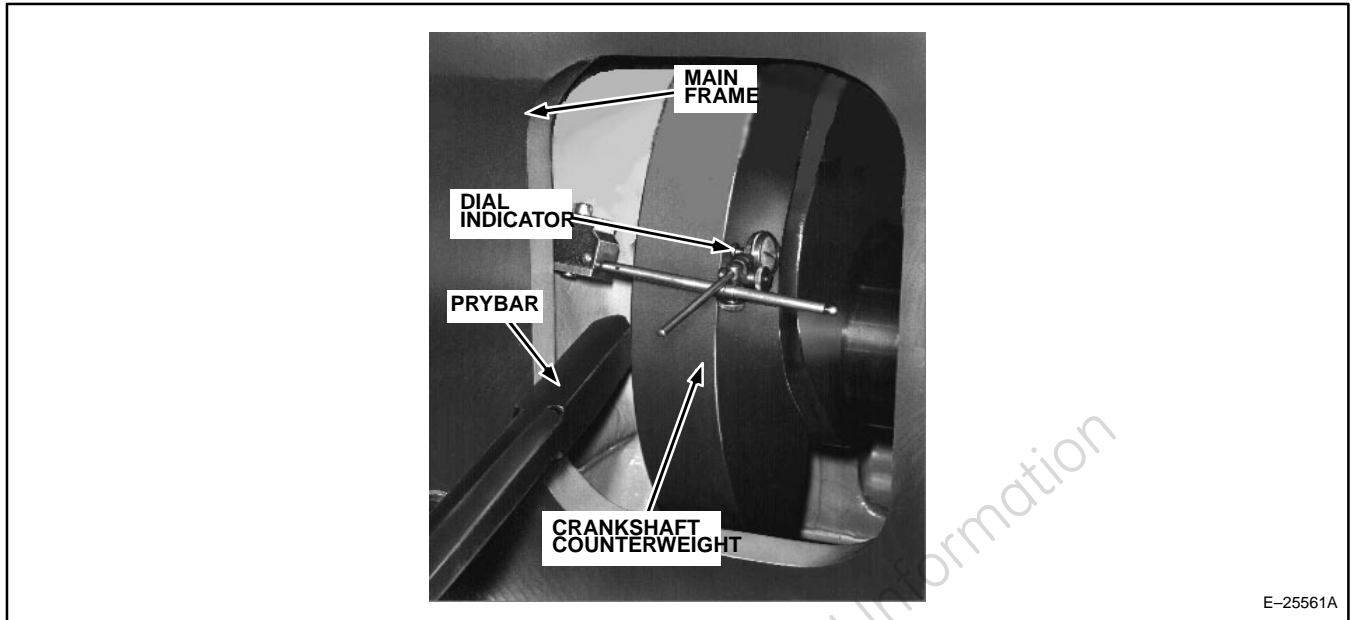

Figure 42. Checking Crankshaft Thrust Clearance.
With the engine shut down and crankcase inspection cover(s) removed, set up a magnetic base dial indicator similar to Tool 147X1229. Attach the magnetic base to the main frame and position the indicator needle against the face of one of the counterweights (Figure 42). With a pry bar, move the crankshaft to its extreme forward and rear positions. Note the total movement of the dial indicator which is the crankshaft thrust clearance. If total clearance exceeds 0.040 in. (1.02 mm), renew the crankshaft thrust bearings.
4. Check the crankshaft thrust clearance (Figure 42).